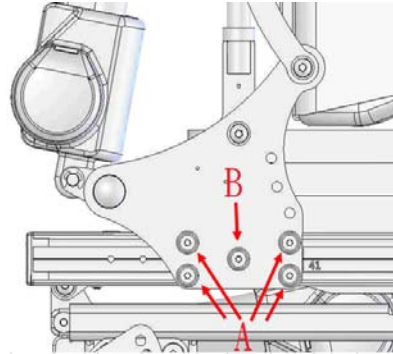

Figure 5-75
5.3.5.6 Use the #4 Allen Key Wrench to loosen the screws A and remove the screw B on both sides of the backsupport frame. Adjust the base plate forwards or backwards to accommodate the user's needs. (Figure 5-75). Re-tighten the screws.